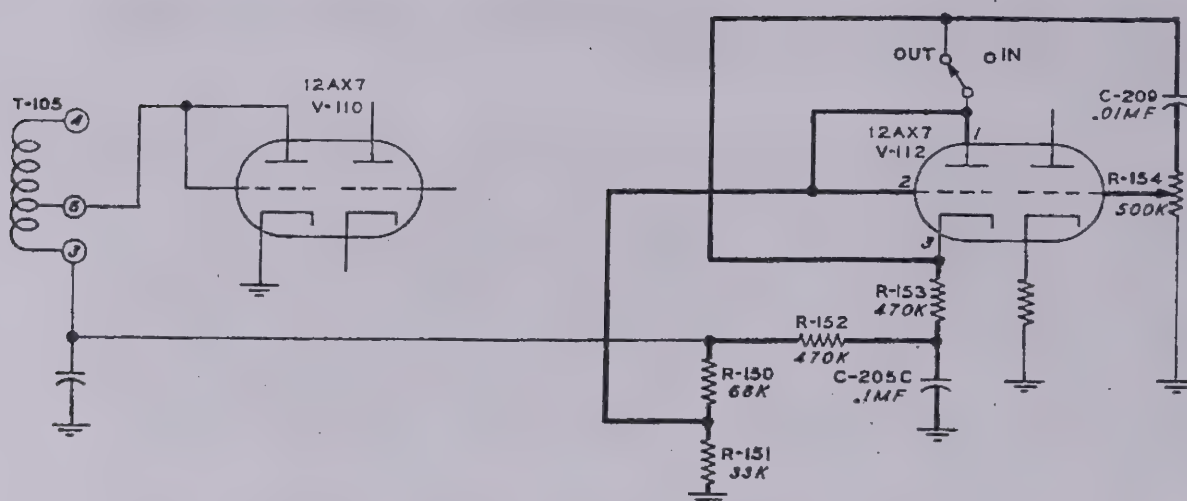

Figure 4-7. 51J-3 Noise Limiter Circuit
4.2.10. NOISE LIMITER. - A series type noise limiter is used in the 51J-3 receiver. This limiter employs one-half (pins 1, 2, and 3) of a type 12AX7 dual triode tube, V112. Refer to figure 4-7. Due to a-c loading of the second detector, heavy noise impulses are automatically clipped from the positive audio peaks in the detector. The noise appearing on the negative side of the audio cycle is clipped by the noise limiter. In operation, a negative voltage produced by rectification of the carrier is developed across capacitor C205C. This voltage cannot change rapidly due to the value of C205C and R152. This negative potential is placed upon the cathode of the noise limiter tube through R153. The cathode is then negative with respect to the plate of the noise limiter tube, due to voltage divider action of R150 and R151 and current flows. This current is modulated by the audio which then appears on the noise limiter cathode to which the grid of the audio amplifier section of V112 is connected. The noise limiter diode will conduct as long as the cathode is negative in respect to the plate. However, should a heavy noise impulse be received, the plate would be driven negative faster than the cathode could follow due to the time constant of R152 and C205C. If the plate is driven more negative than the cathode, the tube will cease to conduct and no audio will reach the grid of the following audio tube. The audio cannot reach the cathode of the limiter tube directly from the diode load because of the filtering action of R152 and C205C. The value of modulation at which the limiter clips can be adjusted by changing the value of some of the components in the circuit. In this receiver, limiting starts between 50% and 85% modulation. Switch S116 bypasses the signal around the noise limiter when receiving conditions do not require its use.